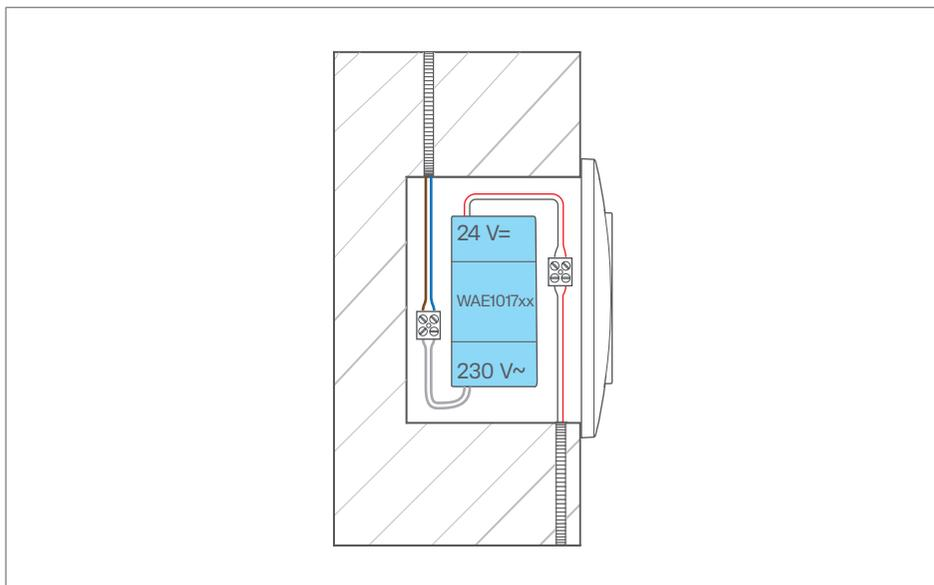

Figure 16: Isolation 230 V~ and 24 V= by means of power supply unit
- Install the power supply unit into the wall box so that the connection of the 230-V cables is kept separate from the 24-V cables. To do this, use the power supply unit for isolation (Figure 16).